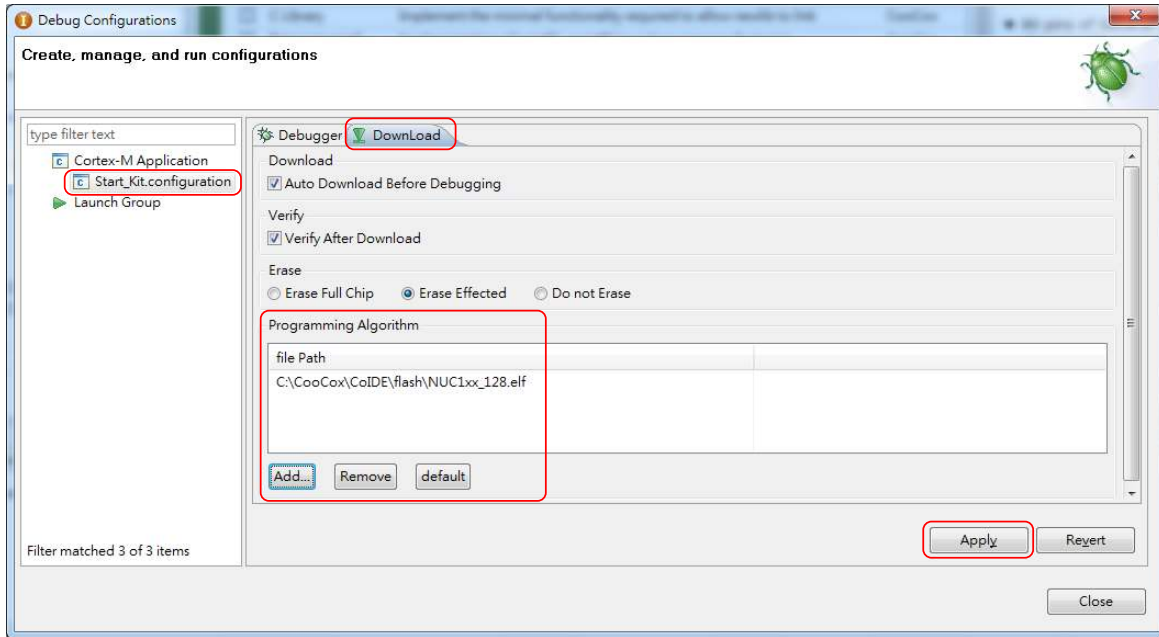

Figure 4-21 CooCox CoIDE Programming Settings
Step 4: In the **Download** tab of the *Debug Configurations* form (through invoking **Debug** → **Debug Configurations**), select the **Auto Download Before Debugging** or **Verify After Download** option to proceed with a specific programming, and set the Programming Algorithm path as "*C:\CooCox\CoIDE\flash\NUC1xx\_128.elf*", as shown in Figure 4-21.
Step 6: At last, click **Apply** to save the settings, as shown in Figure 4-21.